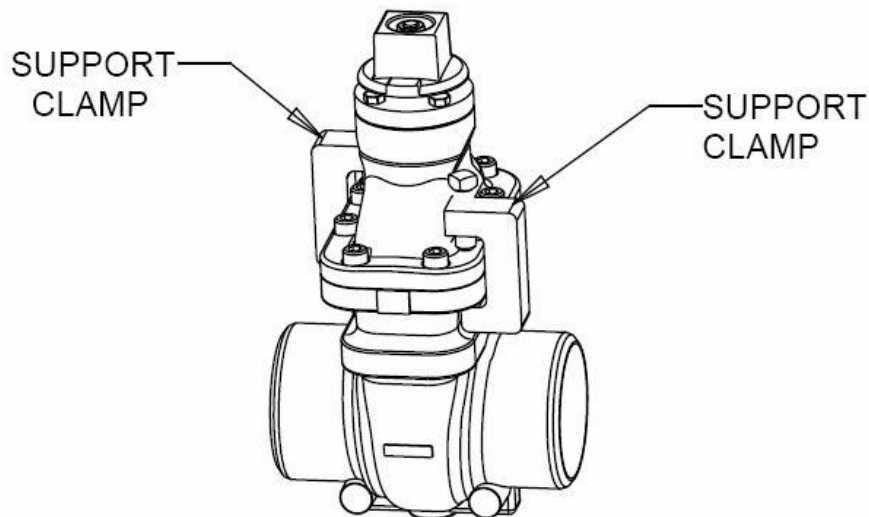

Figure 7: Support Clamp Installations
2. If using these clamps, initially place one in between the two bolts that are closest to the leak location. Another clamp should be placed on a diametrically opposite location on the bonnet. See Figure 7.